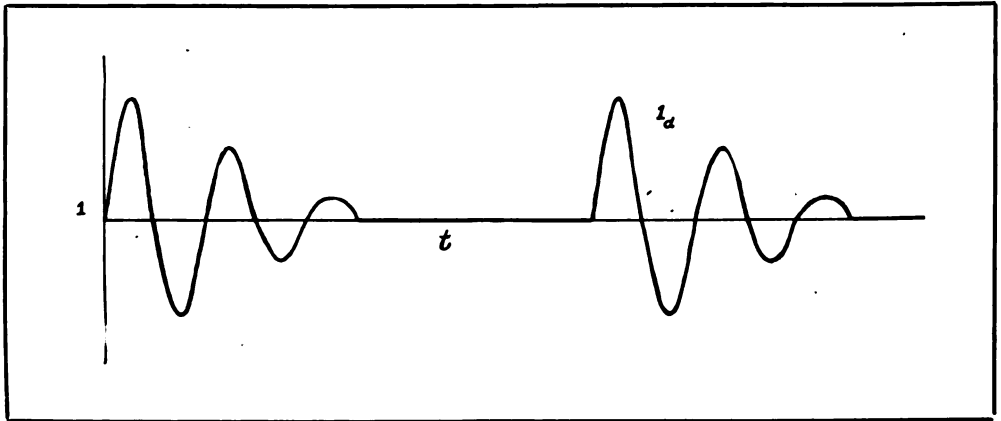

Fig. 26
The arc current for this case is shown in Fig. 26. It will be seen that each train or group is separated from the next by a period during which no current passed through the gap. Generally speaking, alternating currents of this type are produced when the natural damping of the gap discharger (due to the rapidity of de-ionisation and loss of conductivity) is less than that required to produce alternating currents of Type (2). Discharges